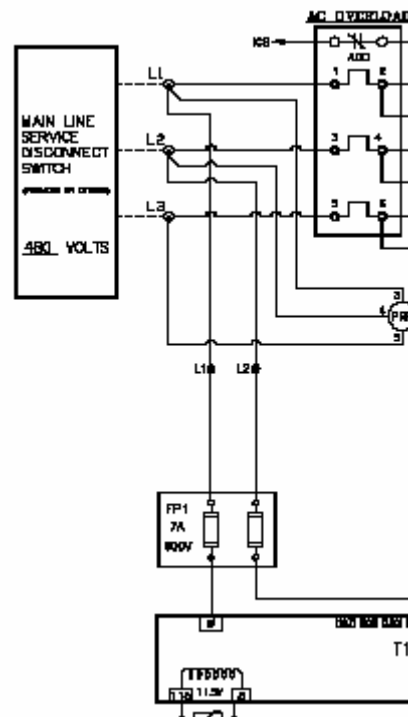

Figure 1-6
- A separate fused circuit from the primary side of the power transformer terminals H1 and H2 to the FP1 fuse block on the drive side of the controller. [See Figure 1-6.]